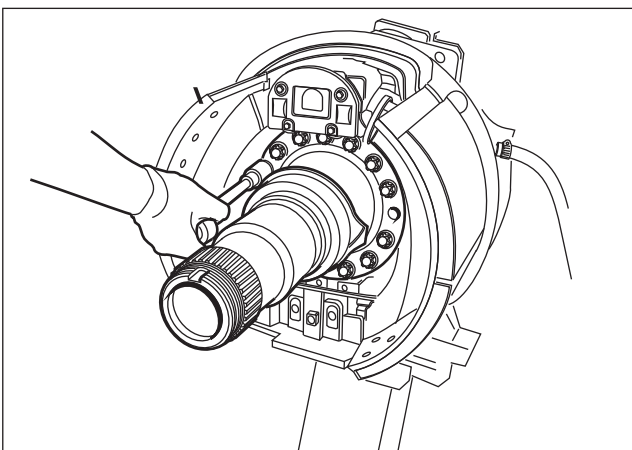

Fig. 2.23
13. Remove the brake and the spindle. - Fig. 2.23